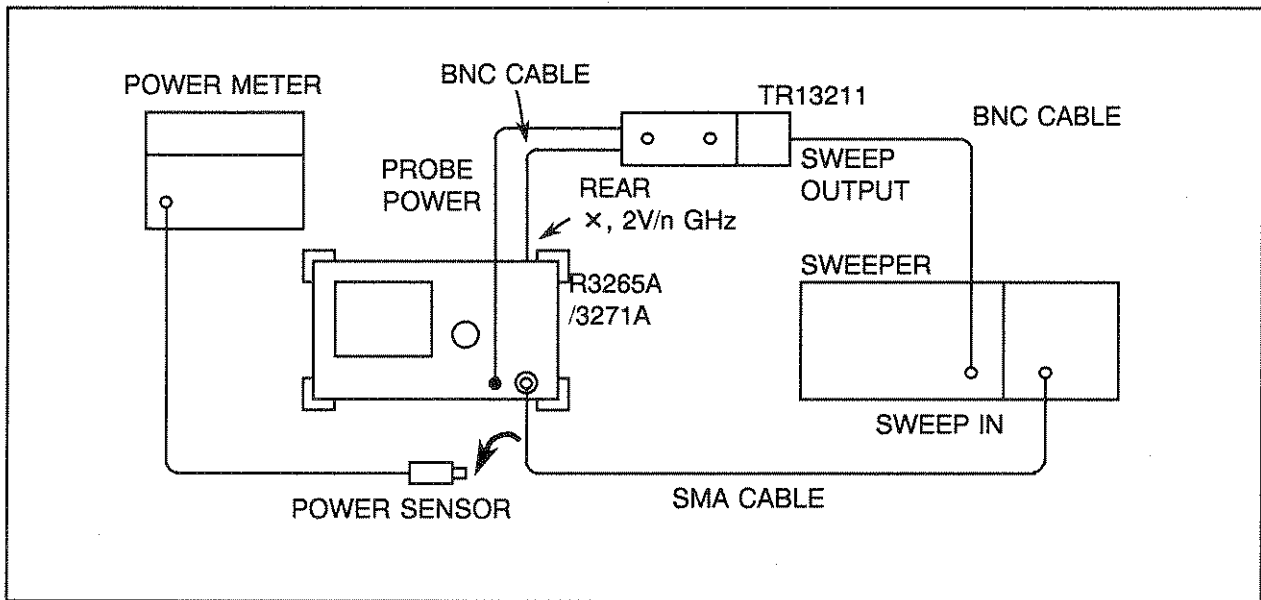

Figure 5-12 Frequency Response Adjustment Setup
- (1) Zero and calibrate the power meter. Rotate and set the CAL FACTOR control to the 2GHz calibration factor of the power sensor.
- (2) Connect the equipment as illustrated in Figure 5-12.
- (3) Press the key on the HP8350, and set the control as follows: